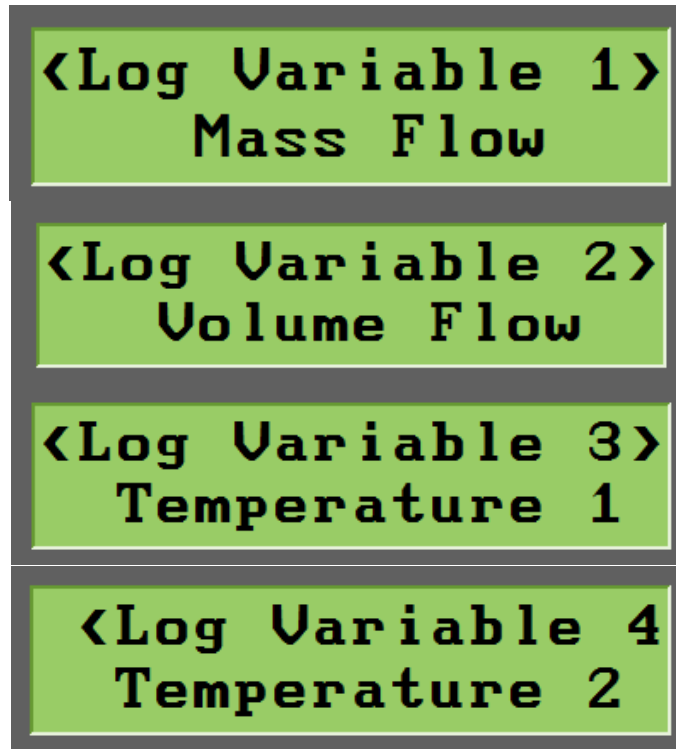

Figure 5-8. Logging Variables
8. The next four parameters define the variables that will be recorded during a logging session. A logging session is defined as an entire day. The unit will record all defined variables, at the interval selected above, and save them to a file with the format of YYYYMMDD.log at the end of each day. You have the option to select four variables from the following list. See Figure 5-8 for a screen capture of how these menus will look on the SonoPro® Fixed Mount unit.